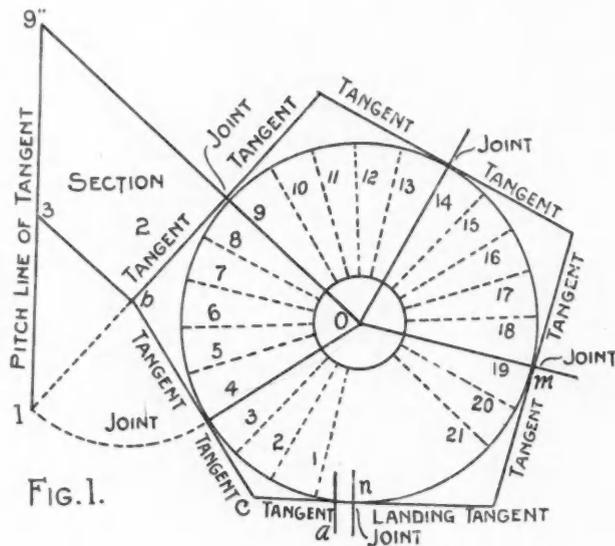

FIG. 1.
**I**N FIG. 1 is shown the plan of 20 winders and tangents to a circular plan stairway containing 21 risers.
It will be observed that in this figure we have the same base, viz., o-4-b-9-o as in Fig. 1; also that the pitch line of tangents 1-3-9" is the same as in Fig. 1. To find the form of the section draw the line 4-m in the plan; and the line m-2-a" square to the pitch line of the tangents. Place one leg of the compasses in 3, extend the other to I and turn over as shown to a"; connect a"-3; connect also a"-I. From 3 draw 3-o" parallel to a"-I, and make it equal in length to o-b in plan; now connect o"-9" and o"-a"; thus completing the form of the section, viz., o"-9"-3-a". The angle formed between the two lines a"-3 and 3-9" will be the angle required between the tangents of the face mold. In this diagram is also shown the center line of the wreath. The distance 3-7 is made equal to b-7 in the plan; and the curve is described by bending a lath to touch 9"-7-a".
in previous examples, and the curves drawn by bending a flexible lath to touch the points thus found. In Fig. 9 is shown how to find the length of the plan tangents shown in Fig. 1 at m-z-n. The tangent m-z will have the same pitch as that of all the other inclined tangents; and the tangent z-n will be level to align with the level landing rail. It is shown in the plan Fig. 1 that the bottom end of this wreath connects with the piece next to it, over and above riser 19, and that it has to rise over risers 20 and 21. In Fig. 9 is shown the elevation of these risers where riser 21 indicates the location of the floor line.
The length of this line as shown equals the height of 2 risers and 1/2 a riser. Again from m draw a line to represent the pitch line of tangents to z; connect z-19, which will be the length of the plan tangents shown in Fig. 1 at m-z-n.